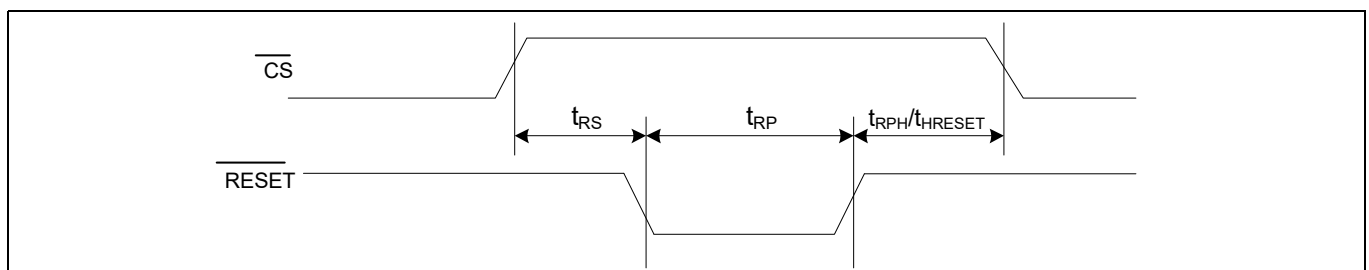
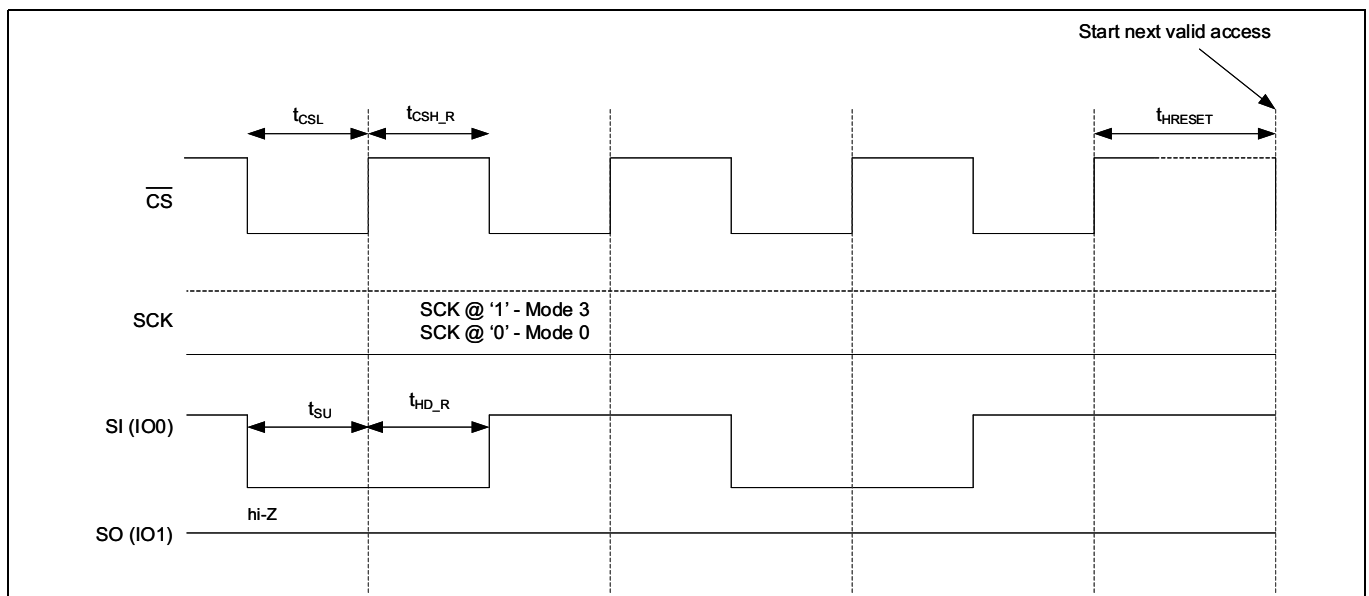

Figure 109 $\overline{\text{RESET}}$ timing - SPI with QUAD set (CR1[1] = '1') or QPI enabled (CR2[6] = '1')
Figure 111 JEDEC SPI reset
The hardware reset input ($\overline{\text{RESET}}$) is multiplexed on ($\overline{\text{RESET}} / \text{I/O3}$) and is an active LOW signal in CY15X102QSN device. Refer to Table 21 for hardware reset ($\overline{\text{RESET}}$) pin configurations across various SPI interfaces. When $\overline{\text{RESET}}$ is pulled LOW, CY15X102QSN self initializes and brings its configuration back to the power up status. Refer to Table 59 for different registers configuration after $\overline{\text{RESET}}$ cycle. Once $\overline{\text{RESET}}$ is issued, CY15X102QSN takes $t_{\text{RPH}}/t_{\text{HRESET}}$ time from $\overline{\text{RESET}}$ rising edge to complete the reset cycle. CY15X102QSN becomes inaccessible during t_{RPH} time. Figure 109 to Figure 111 show the $\overline{\text{RESET}}$ timings in different reset mode.
- The $\overline{\text{RESET}}$ pin is multiplexed on I/O3 in the QPI mode. When using the hardware ($\overline{\text{RESET}}$) in QPI mode, the CR2 [5] bit must be set to '1' to enable to use I/O3 as $\overline{\text{RESET}}$ input when CS is HIGH. Figure 109 shows the $\overline{\text{RESET}} / \text{I/O3}$ timing in QPI mode
Refer to Figure 111 for timing details.